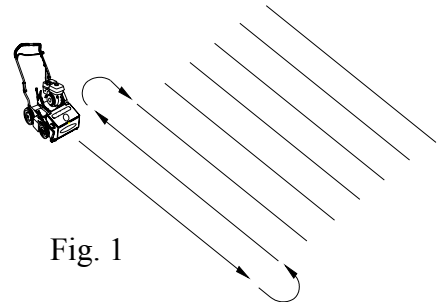
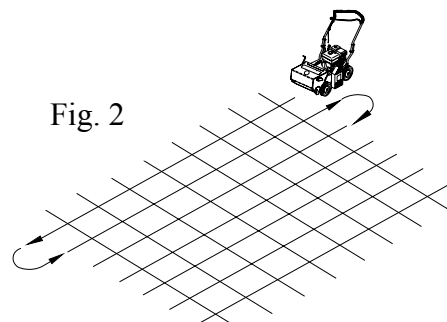

Fig. 1
Fig. 2
**SLICING / OVERSEEDING:** Mow the lawn to shorter than the normal cut height before starting (i.e. approximately 2" tall for fescue grass). For the best result, Slice/Overseed in criss-cross pattern (See Fig. 1 and See Fig 2).